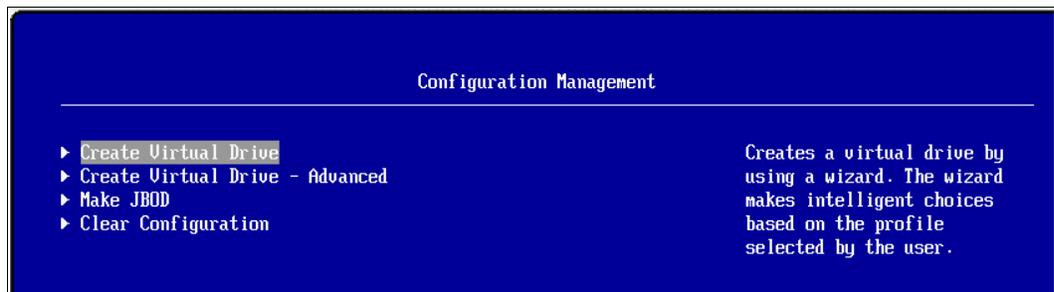

Figure 5-24 Configuration Management panel, Create Virtual Drive selected
- Return again to the **Main Menu** shown in Figure 5-19 on page 90. Access the **Configuration Management** panel, and select **Create Virtual Drive** as shown in Figure 5-24.